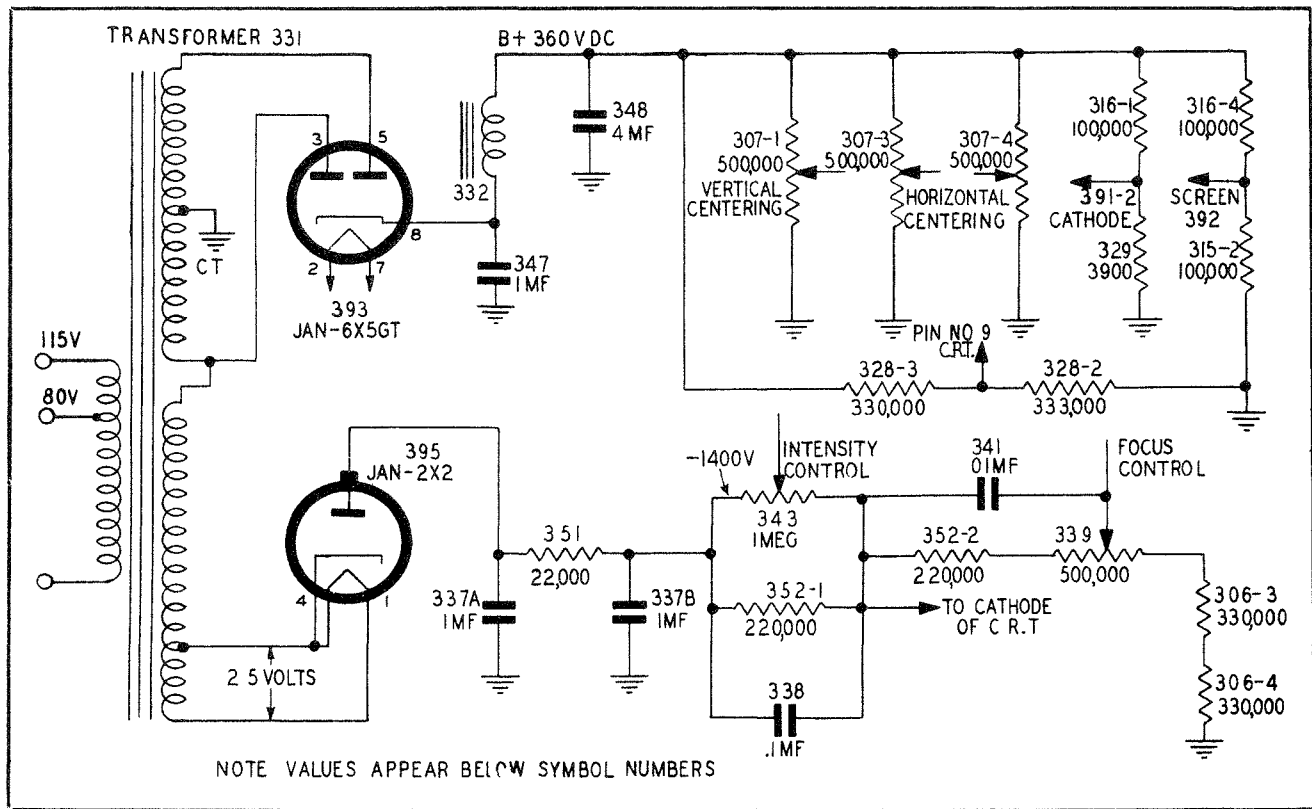

Figure 4-16. Indicator Power Supply and Distribution, Sectional Diagram
(4) POWER-SUPPLY CIRCUITS. (See figure 4-16.)—Screen and plate voltages for all tubes except the cathode-ray tube are supplied by tube JAN-6X5 (393), a full-wave rectifier. High voltage for the cathode-ray tube is supplied from tube JAN-2X2 (395), a half-wave rectifier. The various cathode-ray tube electrodes receive their power through a suitable resistor network.